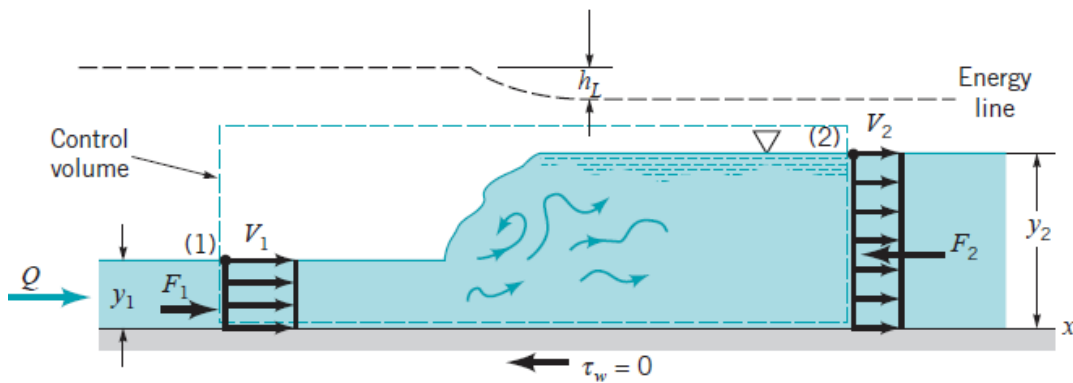

Figure 5.1
5. Water on the horizontal apron of the **30.48 m** wide spillway shown in Fig. 5.1 has a depth  $y_1$  of **0.30m** and a velocity ( $V_1$ ) of **5.48 m/s**. Determine the depth,  $y_2$ , after the jump, and the head loss ( $h_L$ ).